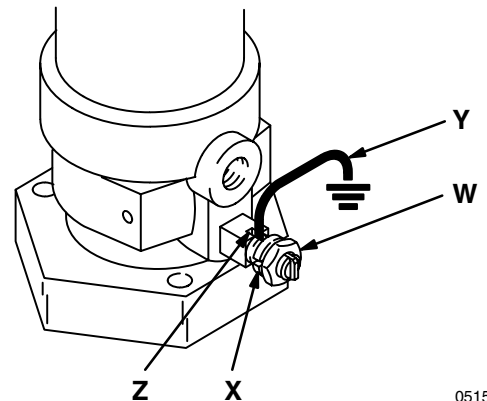

Fig 1
1. *Pump*: use a ground wire and clamp as shown in Fig 1.
To ground the pump, loosen the grounding lug locknut (W) and washer (X). Insert one end of a 1.5 mm² (12 ga) minimum ground wire (Y) into the slot in lug (Z) and tighten the locknut securely. See Fig 1. Connect the other end of the wire to a true earth ground.